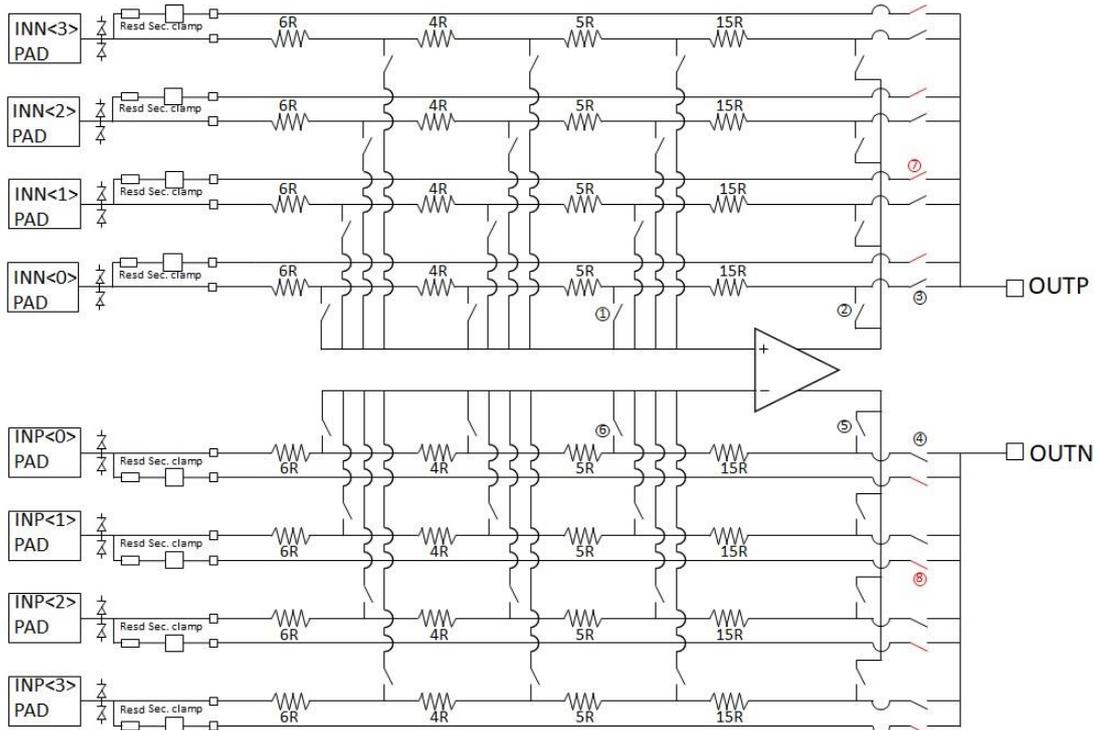

Figure 2: Schematic diagram of input analog MUX block
- Direct connection between the MUX input(s) and the ADC input(s) through switch(es) (e.g., switch 7 and 8 in Figure 2).
The programmability through the switch arrangement shown in Figure 2 has several advantages:
- Thanks to the relatively high input resistance value (minimum 24 kOhm before the switches connected to the amplifier inputs on Figure 2), the secondary ESD protection is not needed in amplifier mode. In amplifier mode the gain is only a function of the feedback resistor ratio.